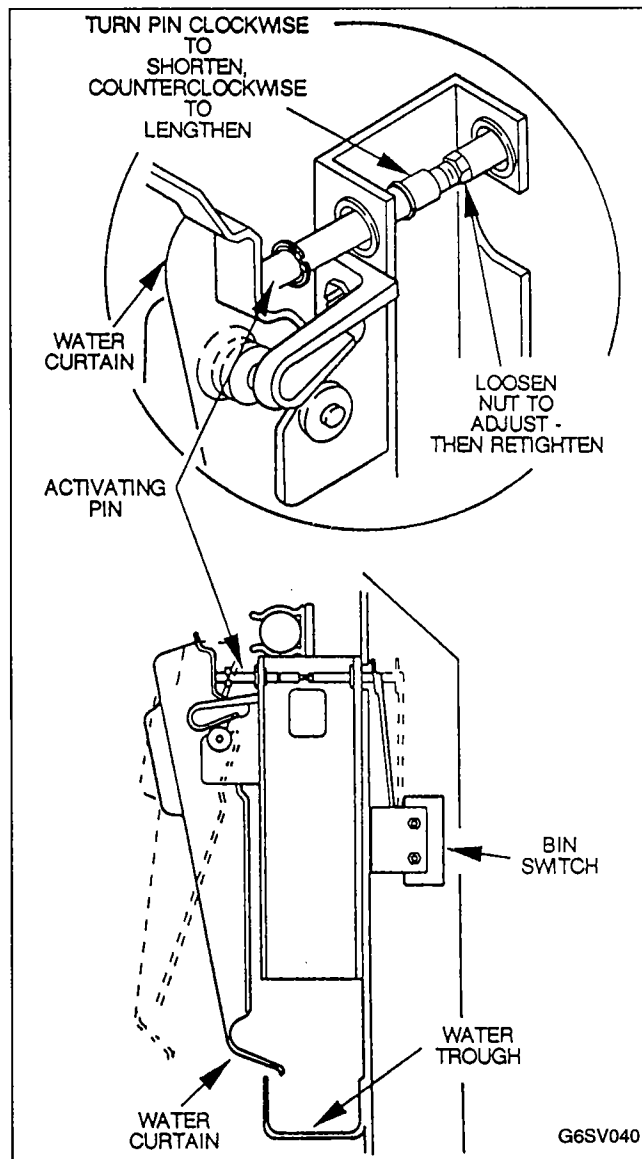

FIGURE 42. BIN SWITCH ACTIVATING
1. Pull water curtain away from evaporator until ice machine shuts off, Figure 42. (Remote machines, wait for ice machine to pump down.)
4. Bin switch pin adjustment (see Figure 42):